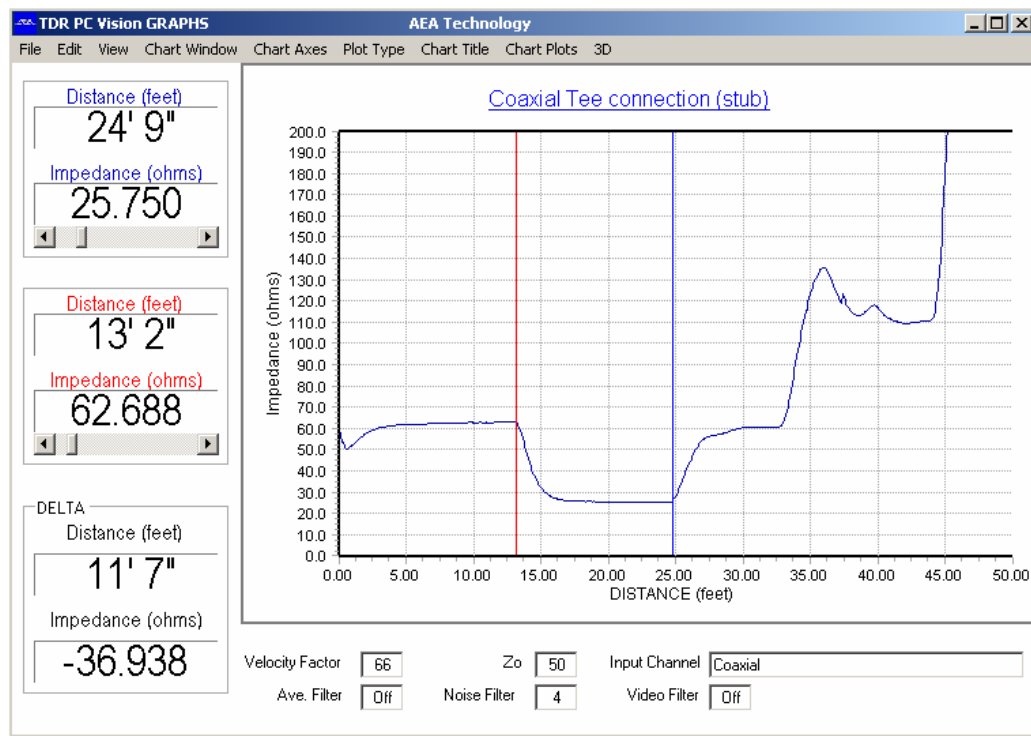
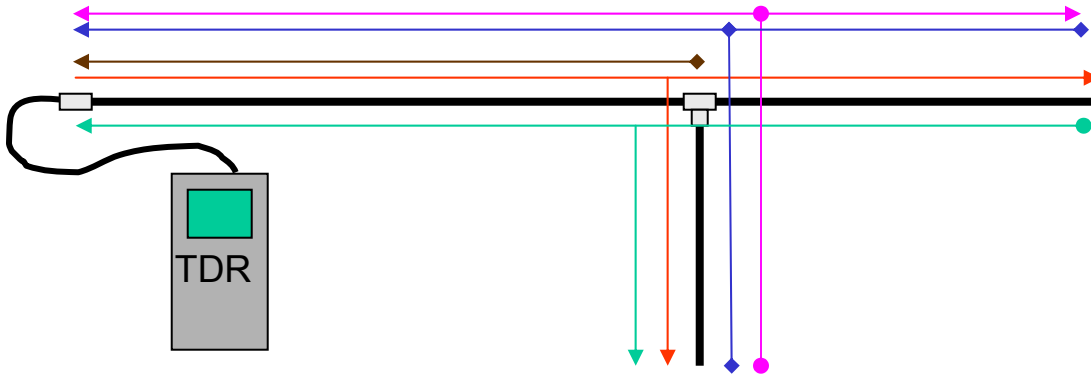

Figure 1
Figure 2
Whether a coaxial Tee is acceptable or not, TDR users should be aware of finding them and how they affect the TDR's trace. This is the same as a bridge tap on twisted pair cable or a tuning stub. In Figure 1, a TDR PC Vision view of the 20/20 TDR's plot, the red cursor at 13+ feet shows the distance to the stub/tap. The blue cursor at 25 feet shows the end of the shorter segment. If the stub/tap is shorter than the main line then it ends at 25 feet. However, it is possible that the stub/tap is longer than the remaining cable in which case the main line ends at 25 feet. The longer of the two segments ends at 33 feet, even though the impedance (Z) doesn't go to an open. In between 25 and 44 feet, the readings can be difficult to understand. This occurs because the signal splits between the two segments and they have multiple paths to travel around before returning to the TDR. In the case of a stub, you should have expected distances available to check against. In the case of an unexpected tap, remove the tap and take a new measurement.
When a TDR is sending energy down a single cable and sending back reflections along a single path its trace is fairly strait forward. However, with a Tee involved there are not only two paths and two sources of reflections, but an issue of multiple energy reflections that are causing secondary and tertiary reflection themselves. Figure 2 relates to Figure 1 to show how the secondary reflections are being generated and why the cable's ends do not show a complete open.
In Figure 2 the lines with arrows represent energy paths as follows: